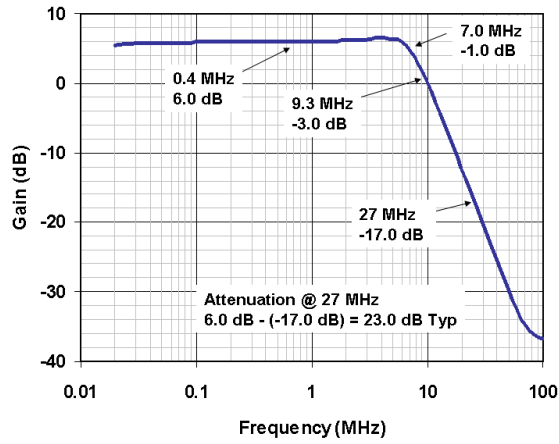

Figure 2. Frequency Response
6. The normalized gain is guaranteed by design and characterization. The max normalized gain of +0.8 dB is the result of smooth peaking (pre-emphasis, see figure 2) taking into account the increase of the losses at the highest frequencies into connectors and cable at the output. For frequencies lower than 2 MHz the max normalized gain is 0.4 dB.